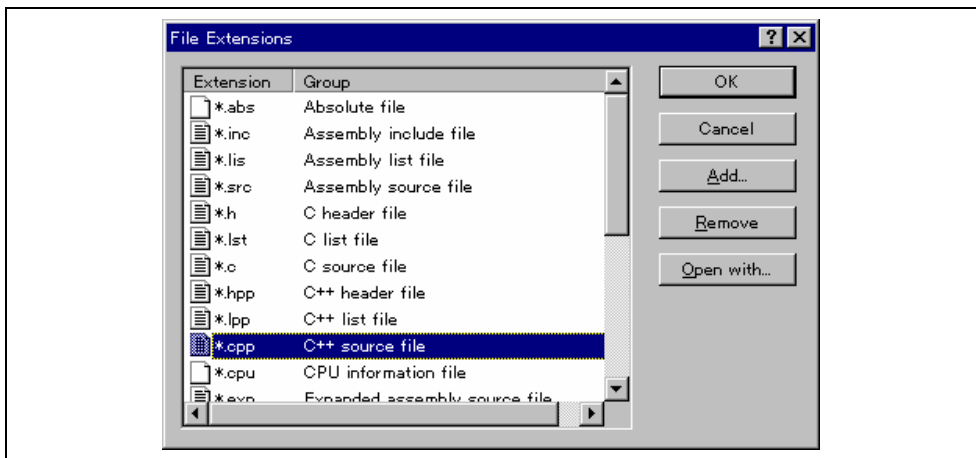
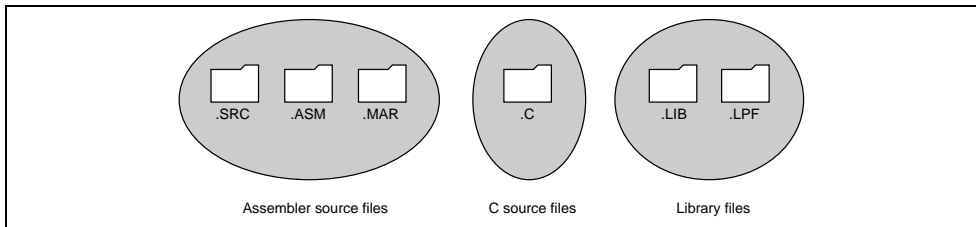

Figure 2.7: File Extensions Dialog
Figure 2.8: File Extensions and Groups
File extensions and file groups can be viewed and modified via the “File Extensions” dialog (figure 2.7). This is invoked by selecting [**Project->File Extensions...**]. This dialog displays all of the extensions and file groups, which are defined within the current workspace.
The “File Extensions” list shown in figure 2.7 is divided into two columns. On the left are the file extensions themselves, whilst on the right are the file groups. Many file extensions can belong to the same group. For example, assembler source files may have several extensions in a single project (e.g. .src, .asm, .mar etc) as shown in figure 2.8.
1. Select [**Project->File Extensions...**] from the menu bar. The “File Extensions” dialog will be displayed (figure 2.7).
1. Select **[Project->File Extensions...]** from the menu bar. The “File Extensions” dialog will be displayed (figure 2.7).